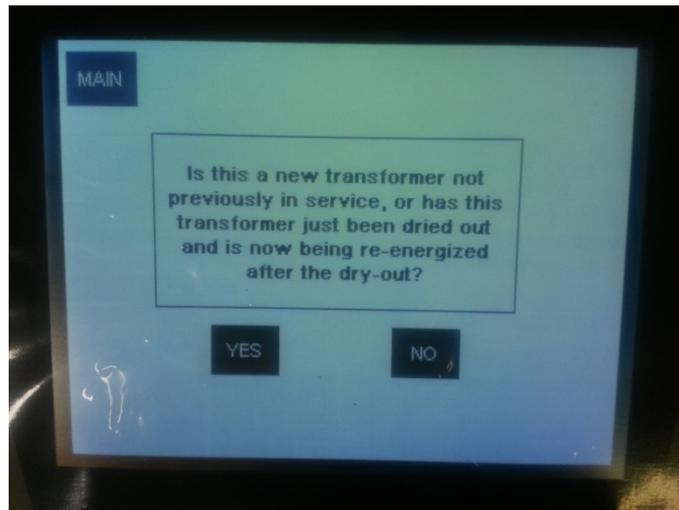

Figure 7: Initial screen when system is ready
- 6) The PLC system will take a few minutes to cycle and start up. The system is online and ready when the screen shown in Figure 7 below is displayed.